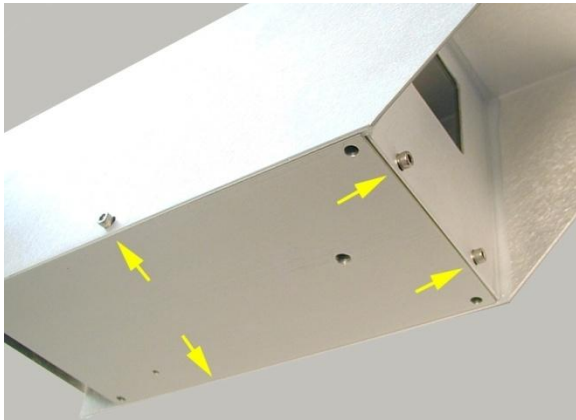

Fig.1
1. Remove four socket head screws holding cover on SM-1 (Fig. 1)